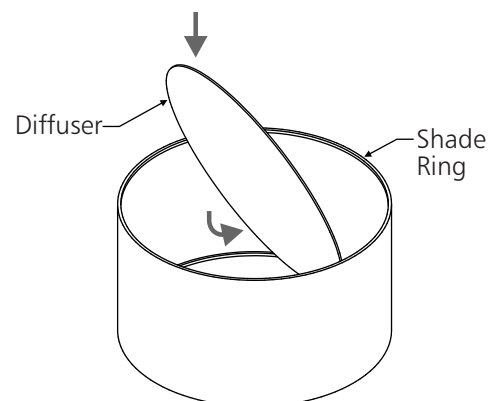

**Fig. 4 - Circuit Wiring Detail**
- Top Diffuser Option: With Top Diffuser sandwiched between, secure Diffuser Cap to Diffuser Hub using (4) #6-32 x 1/4" Undercut Flat Head Phillips Screws. Slide Diffuser Assembly onto Stem. Align top of Diffuser Cap to bottom of Tape and secure to Stem using (1) Set Screw. Remove Tape.
- Thread Stem Coupling Plate onto Stem and secure using (2) Set Screws. Feed Fixture Wire through Stem. Attach Stem Coupling Plate to Band using (6) #10-32 x 1/2" Socket Head Socket Screws. With Stem/Band assembly in upright position, carefully set Top Shade into Band.
- Lift Stem/Top Shade/Band assembly and make secure electrical connections between Fixture Wire and Supply Wire according to local regulations. (Fig. 4 & 8). Insert excess connectors and wire into Junction Box or Surface Mount J-Box.
- Attach Ceiling Plate to Junction Plate using (4) #10-24 x 1" Flat Head Socket Screws or to Surface Mount J-Box using (4) #10-24 x 1/2" Flat Head Socket Screws. Attach Ceiling Plate to reinforcing using (4) #12 x 3" Flat Head Wood Screws.